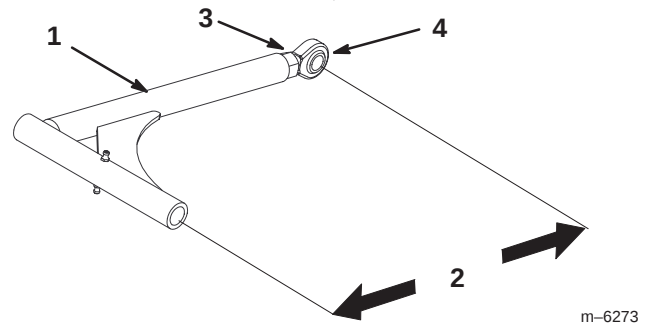

Figure 55
- Loosen the jam nut and rotate the ball joint counterclockwise, one turn at a time (Fig. 55).
- Adjust each side the same amount. Each push arm should have a nominal length of 15-5/16 in. (389 mm) (Fig. 55).